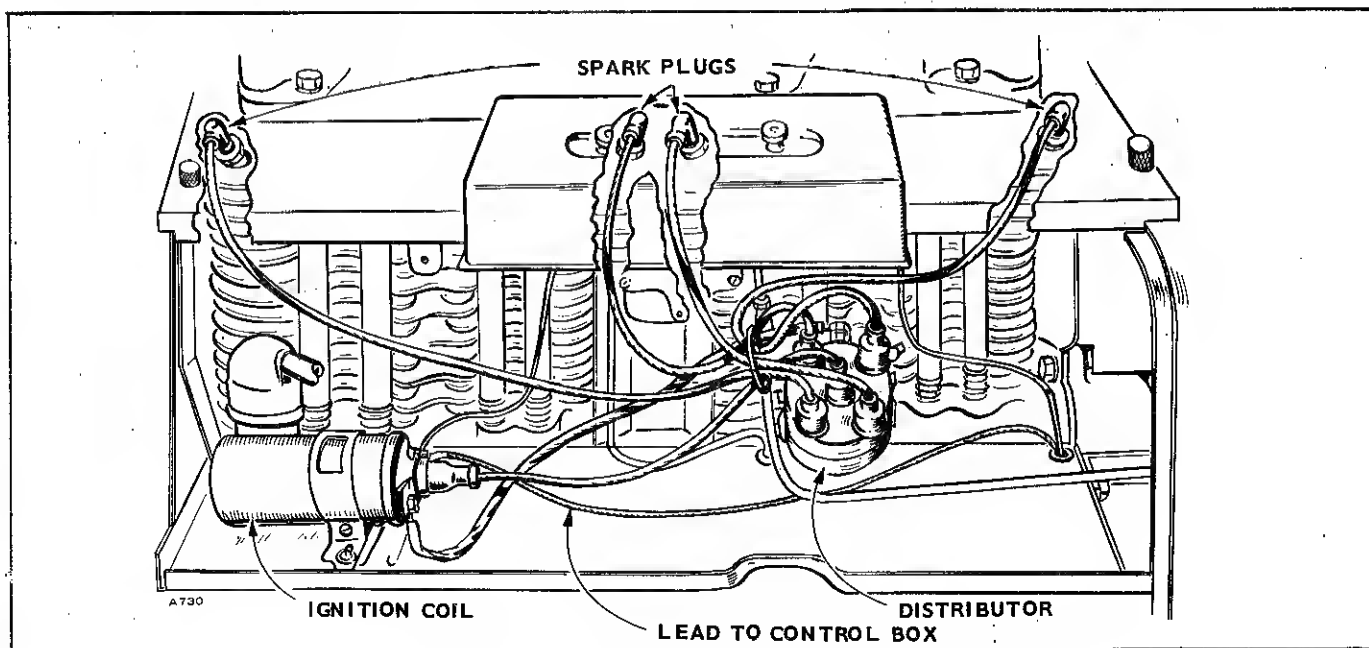

FIGURE 40. JC IGNITION SYSTEM
The JC electric plant uses a battery ignition system with automotive distributor to produce and distribute spark, (Fig. 40).
4. Install the distributor clamp screw. If the spark plug leads were removed from the distributor cap, reinstall them in the proper order, see Fig. 40. Time the ignition system.